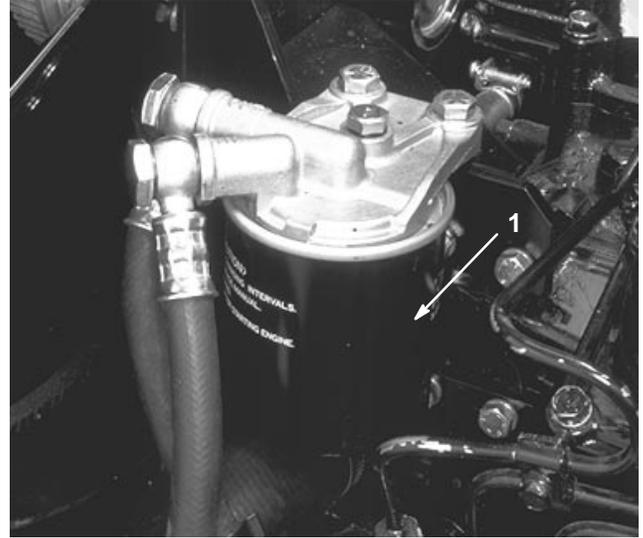

Figure 39
- Every 1000 hours operation, or yearly, replace the engine fuel filter (Fig. 39)—left front side of engine—and drain water from the fuel tank. Apply clean fuel oil to the filter O-ring. Use hands only to install and tighten filter.